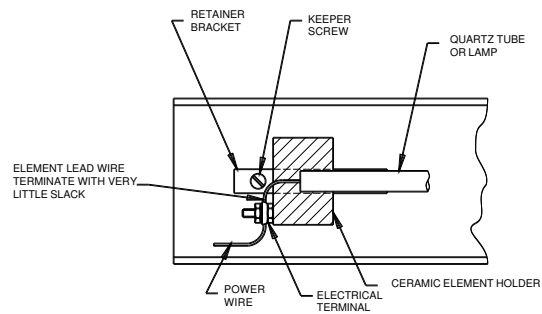

FIG. 2 – TYPICAL WIRING ATTACHMENT OF QUARTZ HEATER
15.0 Follow this procedure and Fig. 2 when installing the tube or lamp: